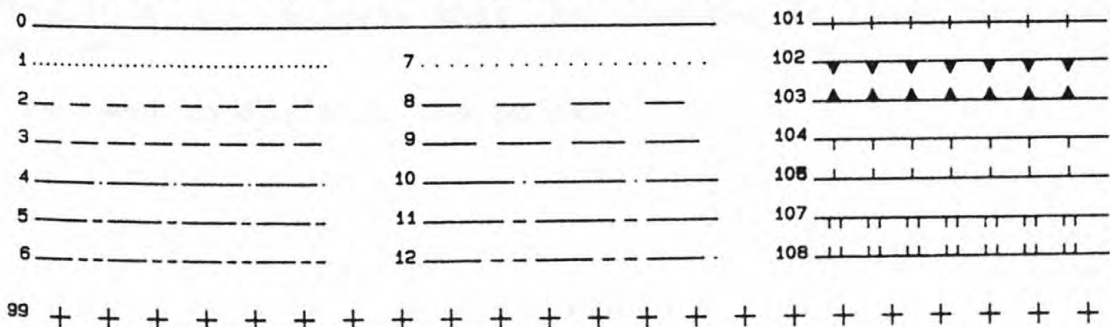

Figure 1. Line types, NOT CODES; numbers to left of lines except decorated lines are line type.
1. CODE: user defined on the basis of the kind of line desired. Criteria to be considered in planning codes include, line type (pattern, solid, dashed, dotted, etc. see Fig. 1), line weight, contacts at .005", faults .015", etc., "decorations", triangles for thrust faults, etc. Following entry of the code, "A" is used to complete the entry.
Entry 3: the line type; uses line types 0-12 as specified for the plotter (see fig. 1), then a comma (,)
In Fig. 1, numbers to left of decorated lines are the number of the symbol in the CONFIG.PLT file. Lines were digitized from left to right. Direction of digitizing is important to lines decorated on one side. Symbol 9 used to decorate "line" drawn using line type 99.